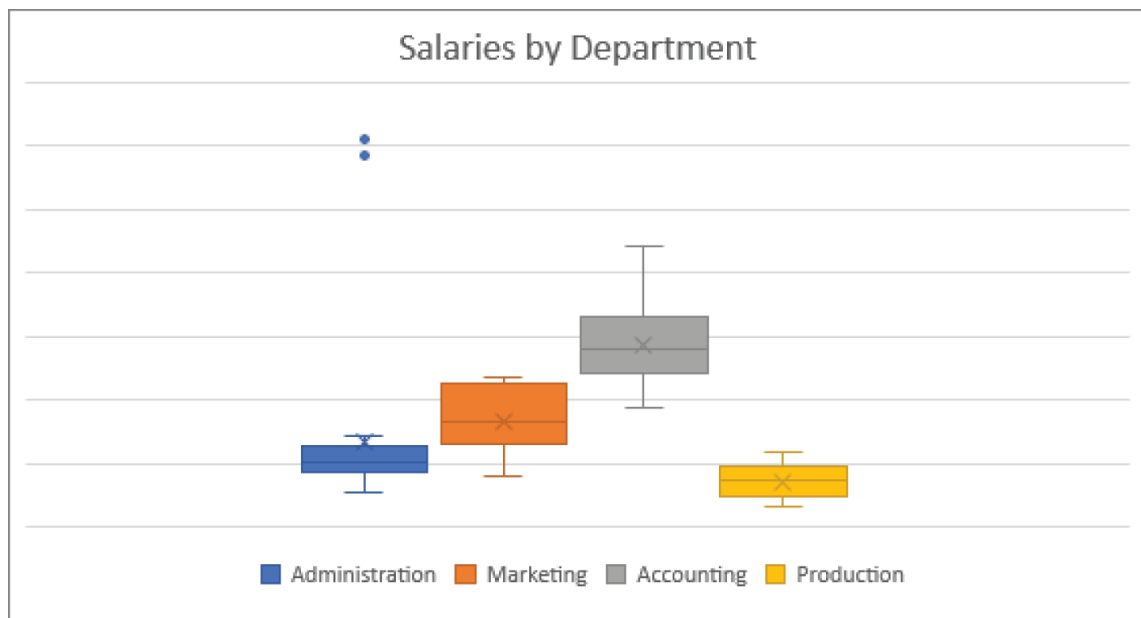

Figure 9.45: The final box plot
6. Optionally, delete the y-axis. The final chart is shown in Figure 9.45.